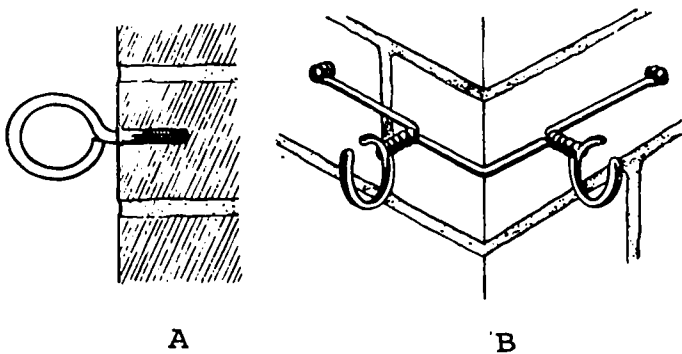
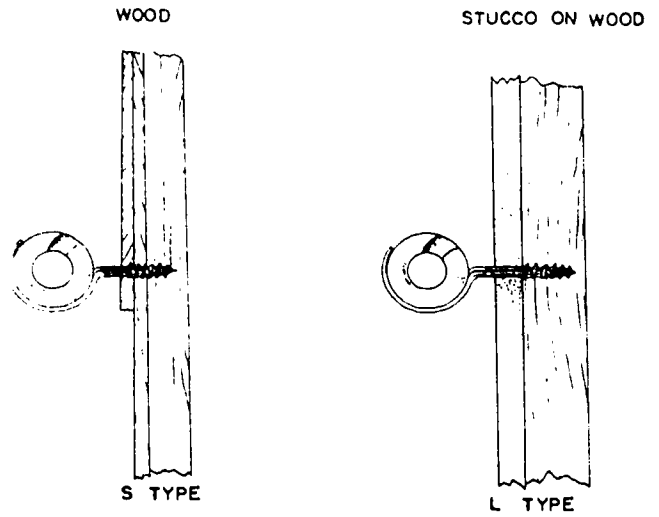

Figure 3-16. Bridle ring installation.
Figure 3-17. Use of short and long insulated screw eyes.
Between the first and the last building attachments, place the drop wire run on the building by means of rings or screw eyes. These supporting devices are intermediate attachments. Figure 3-16 shows a bridle ring (A) and corner bridle rings (B) installed on brick surfaces. Figure 3-17 shows insulated screw eyes installed on surfaces of wood and stucco on wood. Use the short shank (S-type) on wood surfaces and the longer shank (L-type) with stucco surfaces. Keep the distance between the attachments on horizontal runs within a maximum range of 9 feet, and keep the distance between attachments on vertical runs within a maximum length of 12 feet. Place intermediate attachments so that they will divide as evenly as possible the distance between the first and the turn attachments on a horizontal run and the distance between the turn and last attachments on a vertical run. If the vertical run begins with the first attachment, divide the distance between the first and last attachments. Such placings give the drop more security and a better appearance. When you use additional attachments, make allowances so that exposed wires will clear a frame building and the wires will not slap the building.